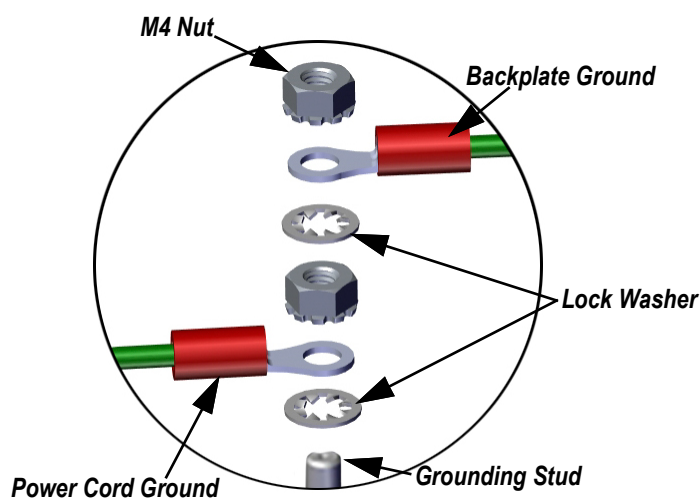

Figure 2-8. DC Grounding Stackup
3. One wire will be terminated (grounded) at a stud near the cord grip using the grounding stackup (Figure 2-8).